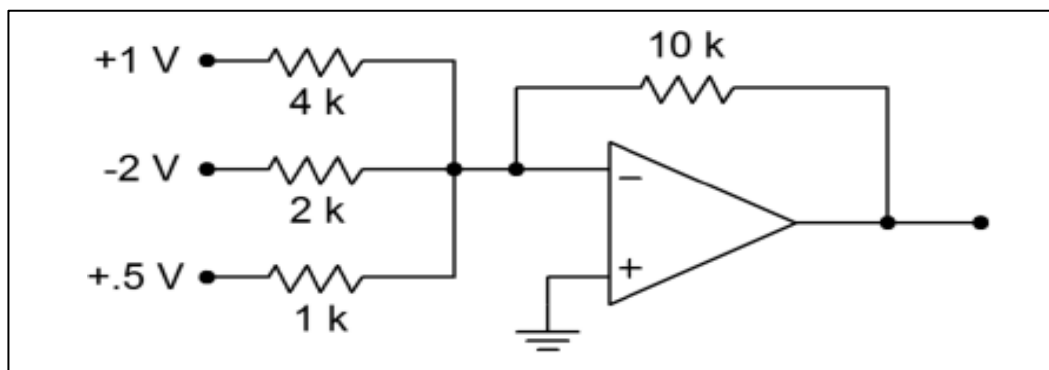

Figure.7.3.1
7.3. What is the output of the summing amplifier in Figure 7.3.1, with the given DC input voltages? Compare the values obtained from Simulation and Practical values.